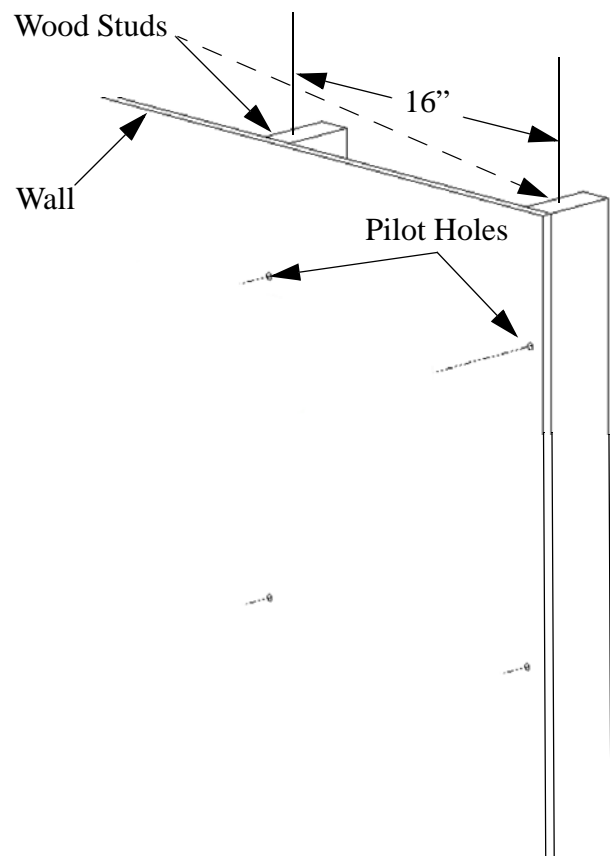

Figure 1. Two Wood Studs 16" Apart On Center
6. Drill two pilot holes where the mounting holes were marked for anchoring the top bracket on the mount. See Figure 1.